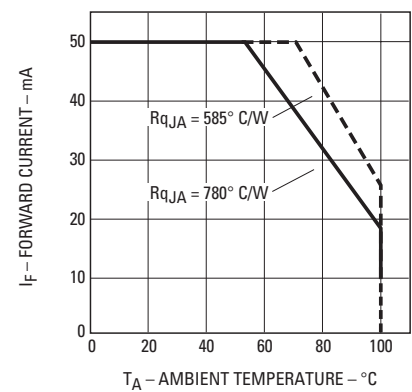

Figure 7. Amber, red maximum forward current vs. ambient temperature.
1. Derate linearly from Figure 7.